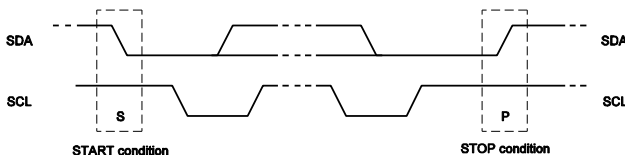
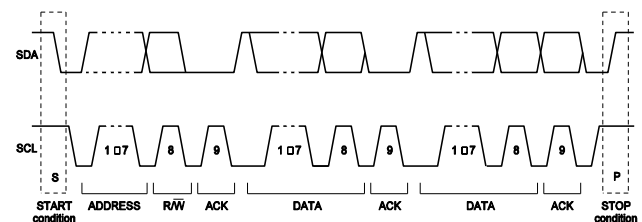

Figure 8—Start and stop conditions
Figure 9—A complete data transfer
Start and stop are signaled by the master device, which signals the beginning and the end of the I²C transfer. The start condition is defined as the SDA signal transitioning from high to low while the SCL is high. The stop condition is defined as the SDA signal transitioning from low to high while the SCL is high, as shown in Figure 8.
Data transfers follow the format shown in Figure 9. After the start condition (S), a slave address is sent. This address is 7 bits long, followed by an eighth bit which is a data direction bit (R/W). A “0” indicates a transmission (write), a “1” indicates a request for data (read). A data transfer is terminated always by a stop condition (P) generated by the master. However, if a master still wishes to communicate on the bus, it can generate a repeated start condition (Sr) and address another slave without first generating a stop condition (see Figure 8).